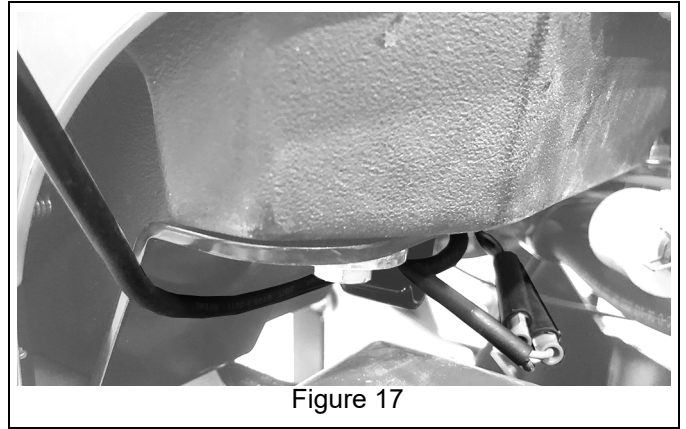

Figure 17
14. Connect right headlight bullet connectors to short harness wire. Connect red to red and black to black. Retain harness in right J-clamp. See Figure 17.